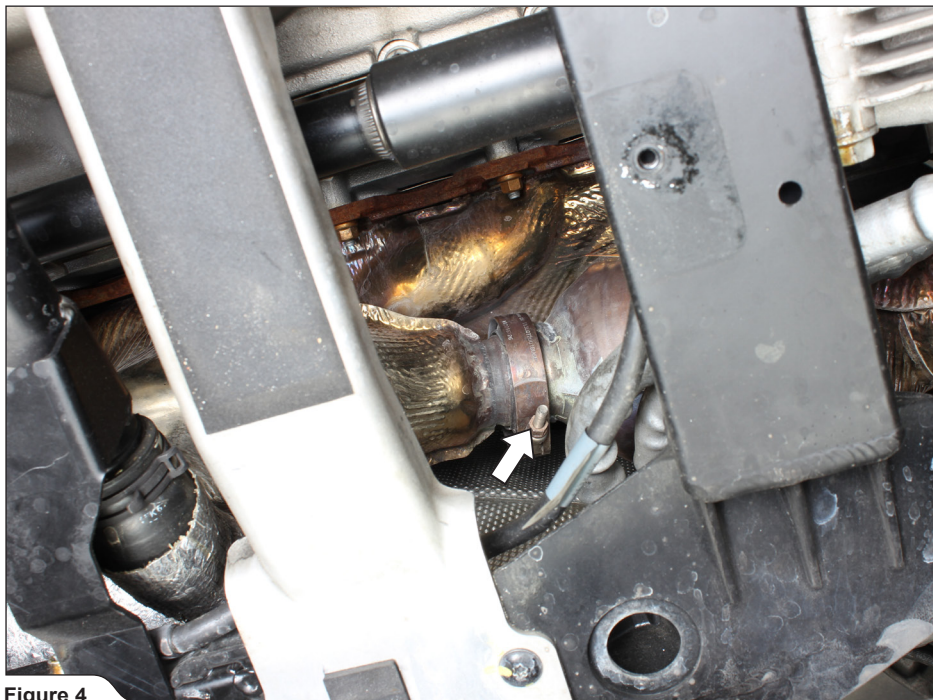

Figure 4
5. Unscrew the lower link pipes' V-clamps on both sides of the engine (**Figure 4**).